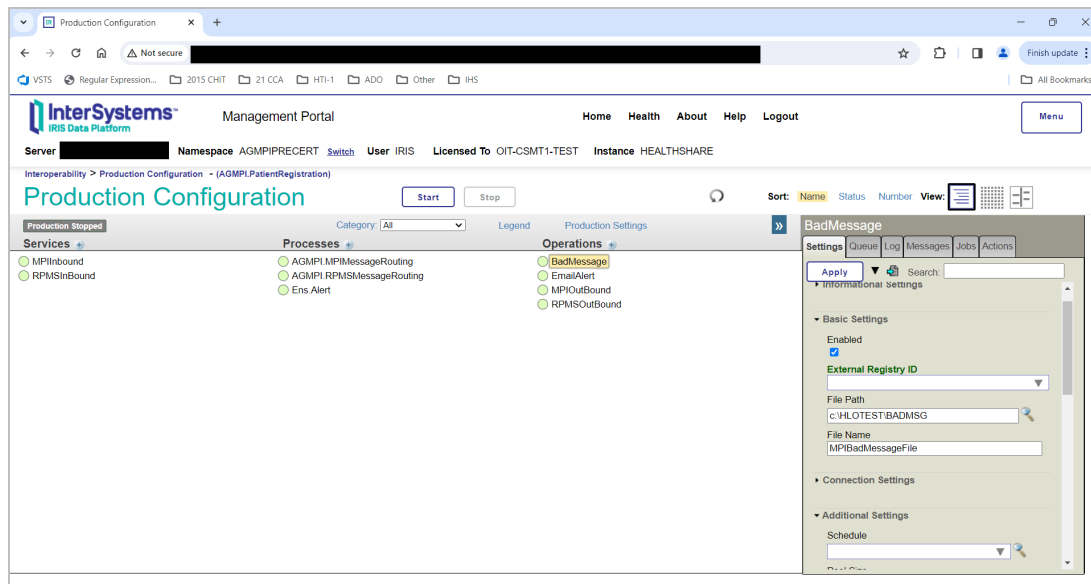

Figure 5-26: Production Configuration, BadMessage settings
1. Click **BadMessage** on the **Production Configuration** page to display the BadMessage configuration, as shown in Figure 5-26.